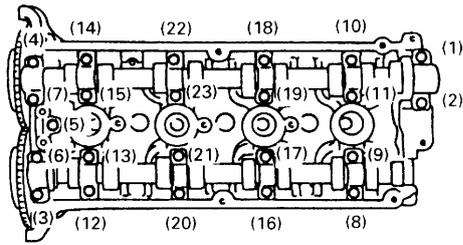

Fig. 4-109
4) remove bolt of camshaft bearing cover according to the order as Fig.4-109 shown.